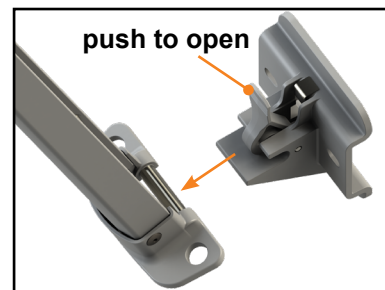

Fig.9
8. Lift the support arm assembly up and secure the feet into the previously installed bottom mounting brackets by pressing the lever and opening the latch (Fig.9).